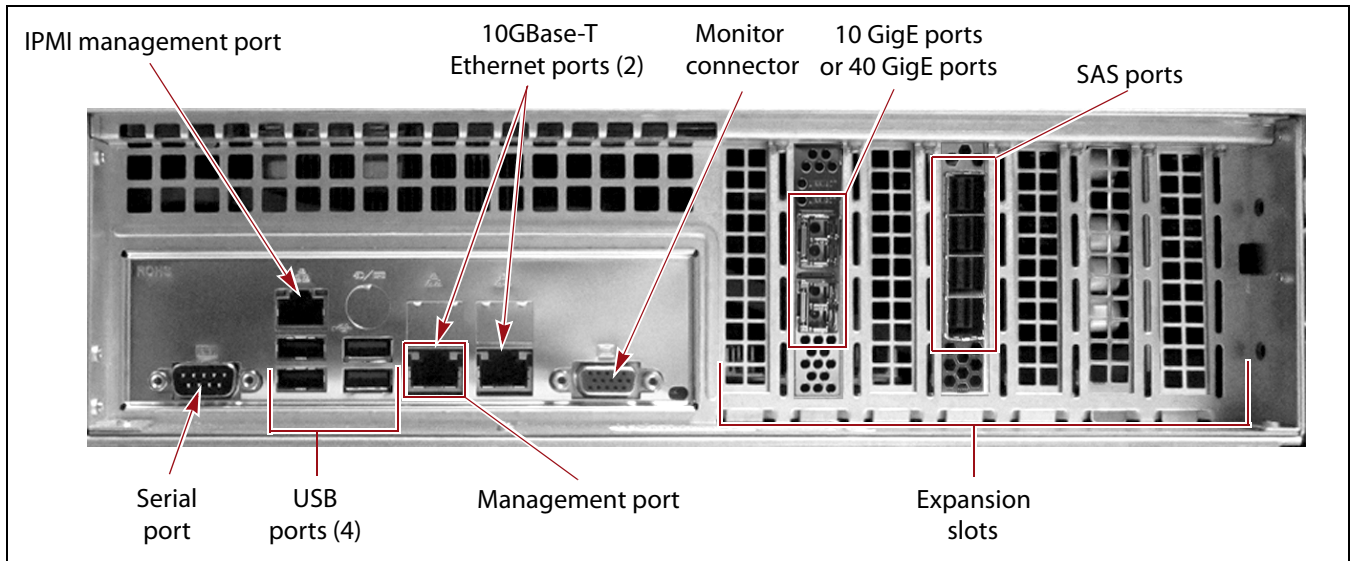

Figure 1 The rear panel components of the master nodes.
Use the instructions in this section and Figure 1 to connect network cables, install the null modem serial cable, cable the primary and secondary master nodes to the expansion nodes, connect Fibre Channel and SAS cables, if applicable, and connect power cables.
Use the instructions in this section to connect Ethernet cables to the master nodes. See Figure 1 for port location.
The data connections to each master node must be identical, the same ports connected in the same way to the same network, on both the primary and secondary master node. See Figure 1 on page 10 for port location.
1. Locate the serial port on the back of the **primary master node**. See Figure 1 on page 10.
1. Locate the SAS ports on the back of the **primary master node** (see Figure 1 on page 10). If you have more than two expansion nodes or tape libraries with SAS drives, additional SAS cards are installed in the master node.
5. Locate the SAS ports on the back of the **secondary master node** (see Figure 1 on page 10). If you have more than two expansion nodes, additional SAS cards are installed in the master node.
4. Locate the SAS ports on the back of the **secondary master node** (see Figure 1 on page 10). If you have more than two expansion nodes, additional SAS cards are installed in the master node.
For BlackPearl configurations with tape libraries, use the appropriate cables to connect the tape drives in the library to both the **primary** and **secondary** master nodes. See Figure 1 on page 10 for port locations.
Use the following steps to connect the power cords to all master nodes and BlackPearl expansion nodes in the system. See Figure 1 on page 10 for AC power connector locations.